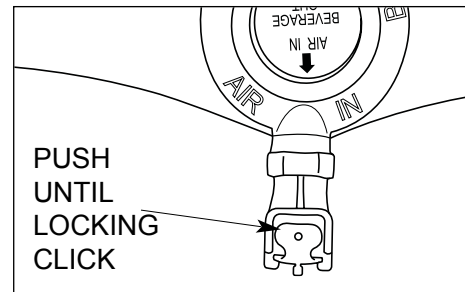

Figure 6
13. Insert the 5 liter mini keg (with the ADAPTER connected) into the dispenser. Insert the YELLOW MALE CONNECTOR attached to the AIR-CONNECT TUBE into the AIR IN opening of the YELLOW ADAPTER (See *Figure 6*). Make sure you hear a "locking click"
14. Take the YELLOW MALE CONNECTOR attached to the DISPENSING TUBE and insert that end into the BEVERAGE OUT opening of the YELLOW ADAPTER (See *Figure 6*). Make sure you hear a "locking click"